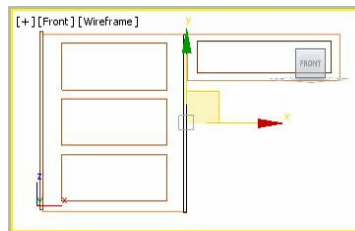

Figure 2-55 Alignment of *left face002*
4. In the Front viewport, copy *left face001* by using the **Clone Options** dialog box as described earlier; a new face is created with the name *left face002*. Now, align it with the other side of *left box*, as shown in Figure 2-55.